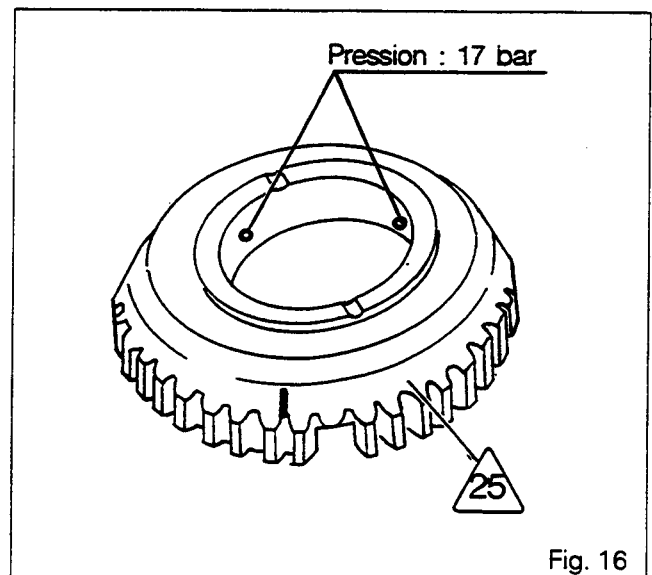
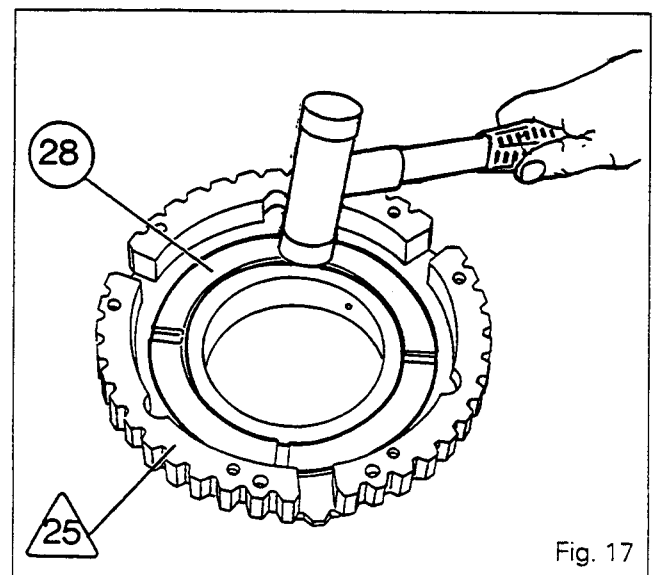

Fig. 16
Fig. 17
43. Make sure that the three openings into the 17 bar passage in the hydraulic cover /25\ are not blocked (Fig. 16).
44. Lubricate O-rings (26) and (29) and fit them to piston (28).
47. Tap the piston (28) gradually home into the cover by working progressively round its face with a plastic-faced mallet (Fig. 17).
48. Refit the splined hub (15) making sure it is correctly orientated.
49. Refit pressure plate (47), spring washer (46), disc (45), pressure plate (44), spring washer (43), disc (42) and pressure plate (41).
**N.B. :** Place the gaps in spring washers (43) and (46) in diametrically opposed positions.